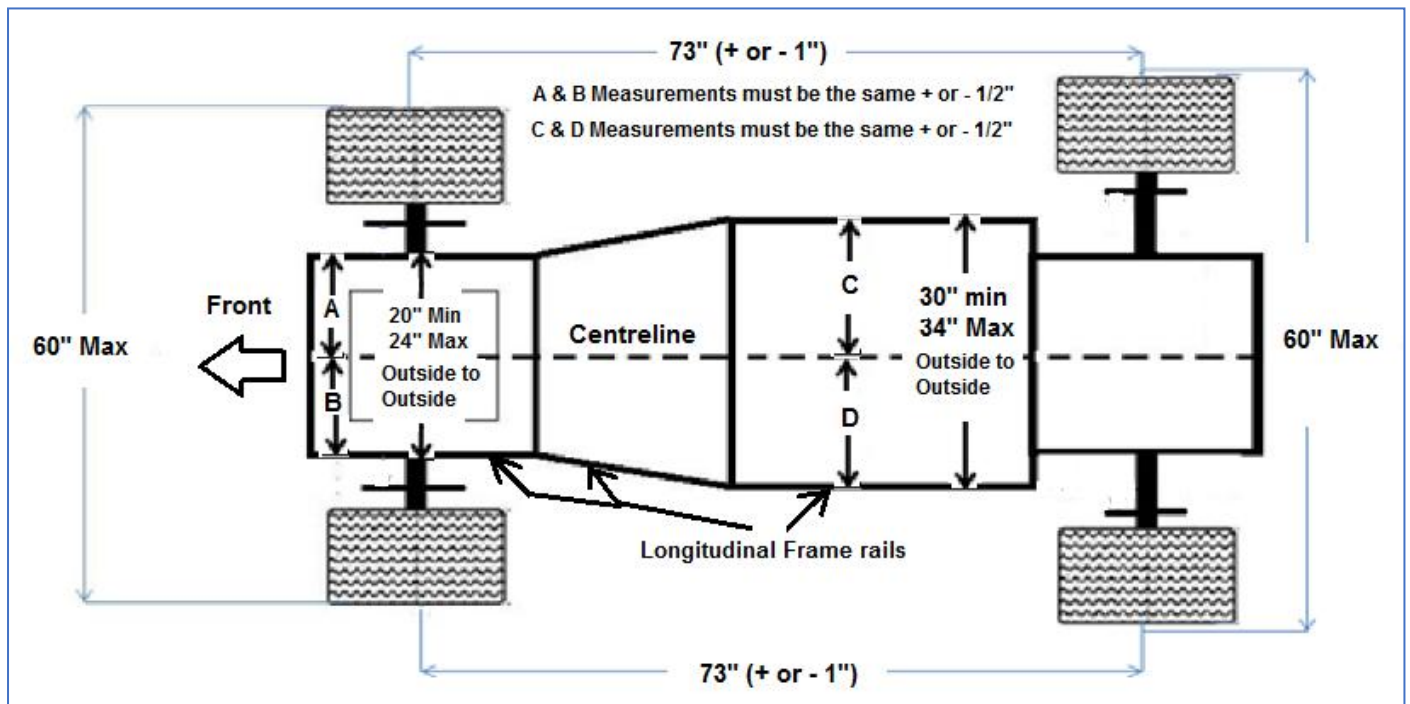

Figure 16
24.1 Maximum frame width is 34" and the minimum frame width is 30". These are outside dimensions (*Figure 16*).
24.9 Frame rails may taper inward, forward of driver seat area (*Figure 16*).
24.10 Front engine area frame and nose width must be 24" max and 20" min outside dimension (*Figure 16*). (Cars manufactured prior to the 2018 production year with the narrow nose will be grandfathered). Cars manufactured after September 30, 2018 will be required to meet **Rule 24.10**.